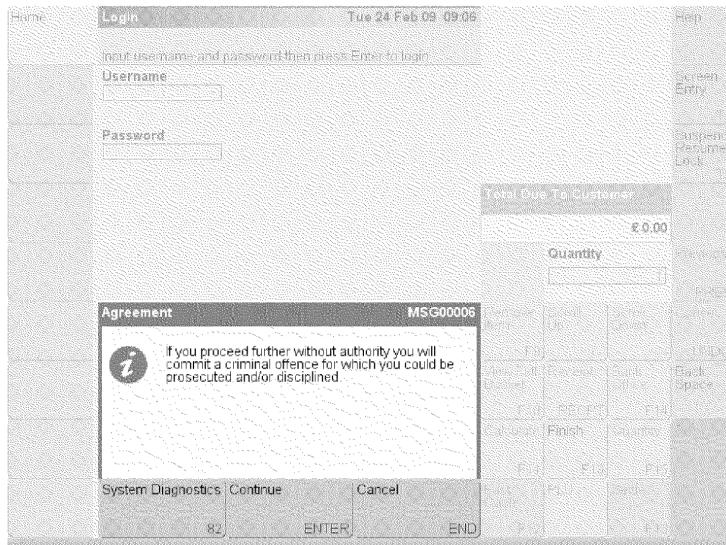
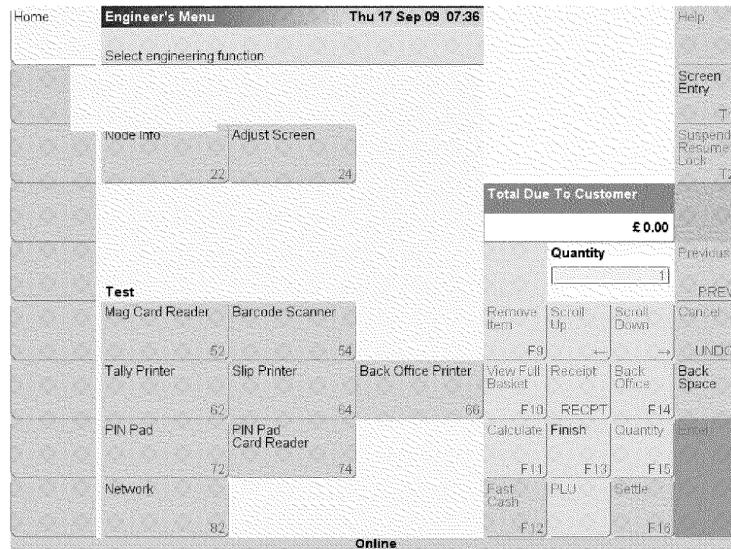

Figure 2
Figure 3
5) To shut down the counter “Cancel” the Network test and the press “Finish” see *Figure 3* above. This will return you to the “grey” screen. Touch the screen and then press System Diagnostics see *figure 2* above. Then press “Manage Application as below